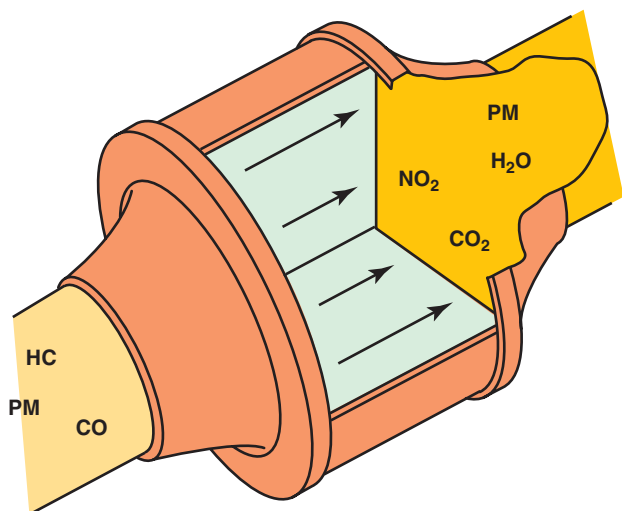

FIGURE 4-23 Chemical reaction within the DOC.
- Carbon monoxide (CO)
- Hydrocarbons (HC)
- **SEE FIGURE 4-23.**